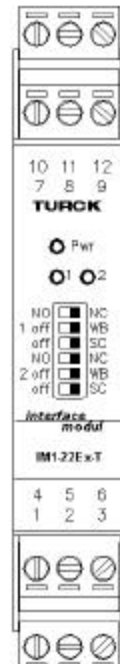

Figure 2. Turk IM1-22EX-T Barrier Relay
- Make sure **all** of the small switches on the relay are in the rightmost position as shown in Figure 2.